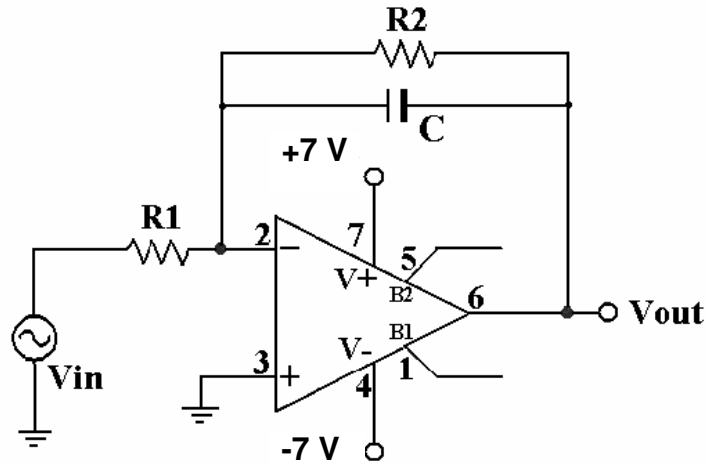

Fig 2. Lossy integrator circuit
It can be seen that the output is directly proportional to the integral ($1/s$ term) of the input signal and a steadily changing output voltage is produced for a constant amplitude sinusoidal input voltage. Notice that the DC gain ($s=0$) at the output is theoretically infinite; hence any small DC signal at the input will saturate the Opamp output over time. In a real integrator circuit, a large resistor in parallel with the capacitor is required to prevent the capacitor from storing charge due to offset currents and voltages at the input. This configuration is known as “lossy” integrator or a first order lowpass circuit, which is shown in Fig. 2.
1. For the lossy integrator in Fig. 2 with power supplies $\pm 7V$, and assuming the Opamp is ideal, derive the time-domain equation for the output in terms of the input. Show that the circuit performs as an integrator.